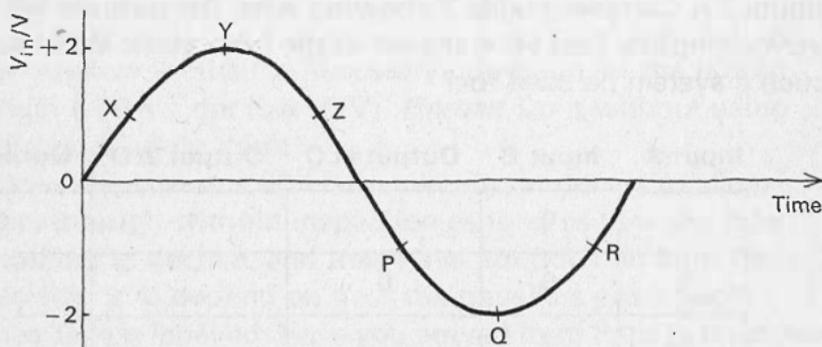
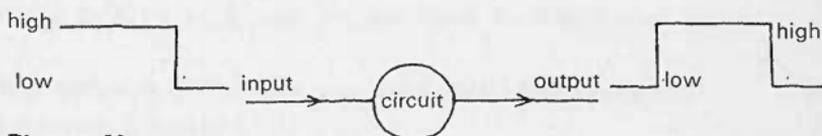

**Figure 38**
**Figure 40**
**9** The graph in figure 38 shows how the output voltage from a basic unit varies with input voltage.
**10** Figure 38, with question 9, shows how the output from a basic unit varies with the input voltage to the unit. What output would the unit give if fed with the signals shown in figure 40?
**14** Look again at the plot of input voltage to a basic unit against output voltage, given in figure 38, with question 9. What conditions must be met if the unit is to produce at its output an amplified version, which will be reasonably faithful, of an alternating voltage across its input?